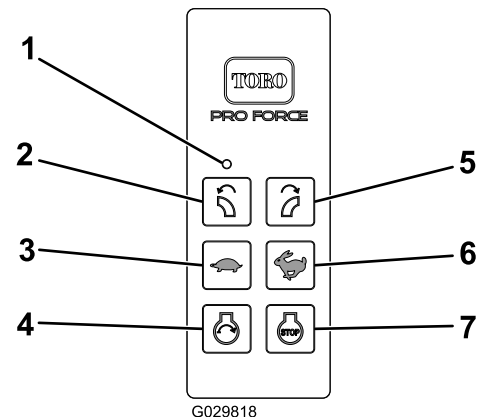

Figure 16
4. Engine Start will only become energized by pressing the Start button while the Engine Start Enable Condition is active. The Engine Start Enable Condition becomes active only when the following Engine Start Enable Sequence has been performed (Figure 16):